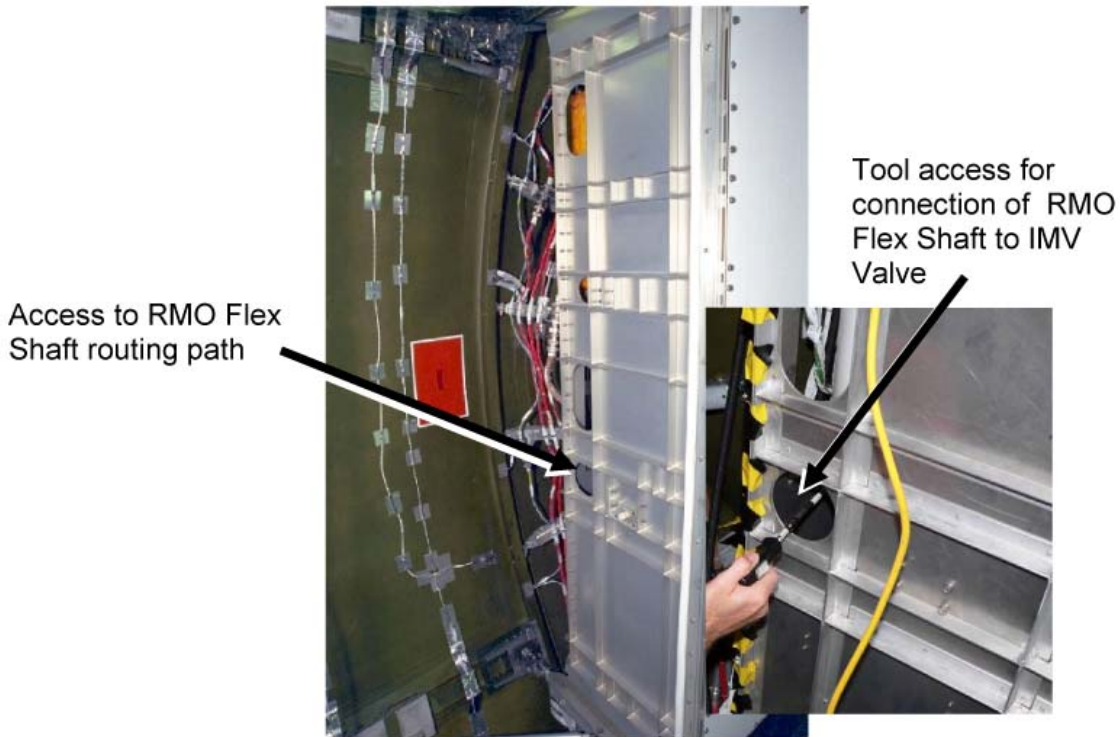

Figure 10.- Access Holes on Aft Side of Port Midbay.
- 3.5 Position RMO Handle below new NOD1P3-01 Closeout Panel. Feed free end of RMO Flex Shaft between Node 1 Cabin Fan Wire Harnesses (W0307 and W0137). Using a second crewmember accessing midbay volume from aft and port sides, continue feeding RMO Flex Shaft around Node 1 Cabin Fan towards IMV Valve. Maintain RMO Flex Shaft bend radius > 8 inches. Refer to Figures 10 and 11.
- 3.6 Align RMO Handle with cutout in new NOD1P3-01. Snug RMO Handle attachment fasteners (four) (Ratchet, 1/4" Drive; 5/32" Hex Head, 1/4" Drive). Refer to Figures 10 and 11.
Refer to Figure 10.